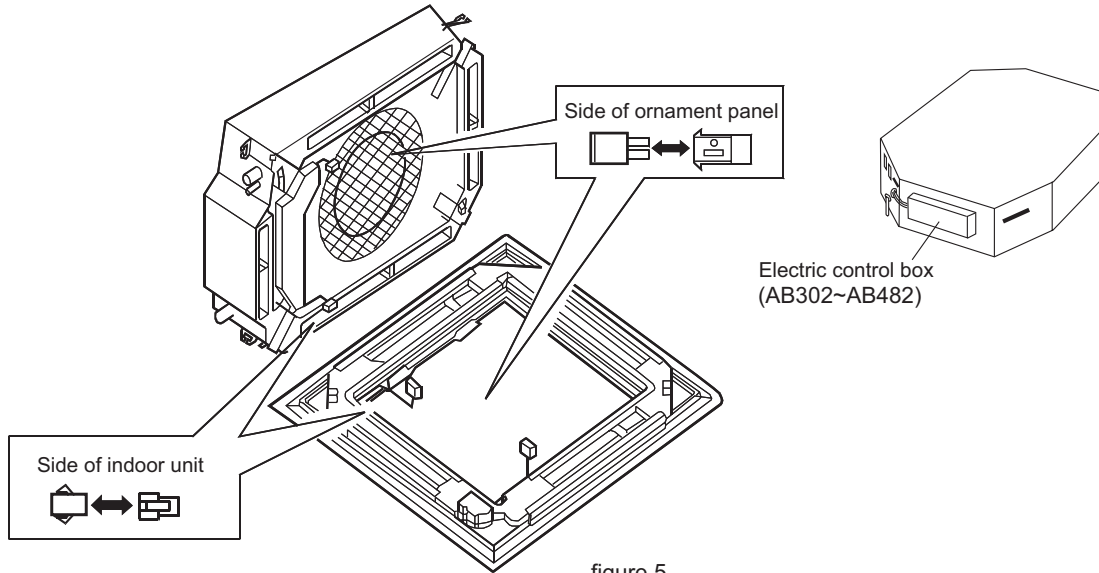

figure 5
2. Open the two hooks, see figure 5.
- f. Connect the swing motor wires connectors on the ornament panel, see figure 5.